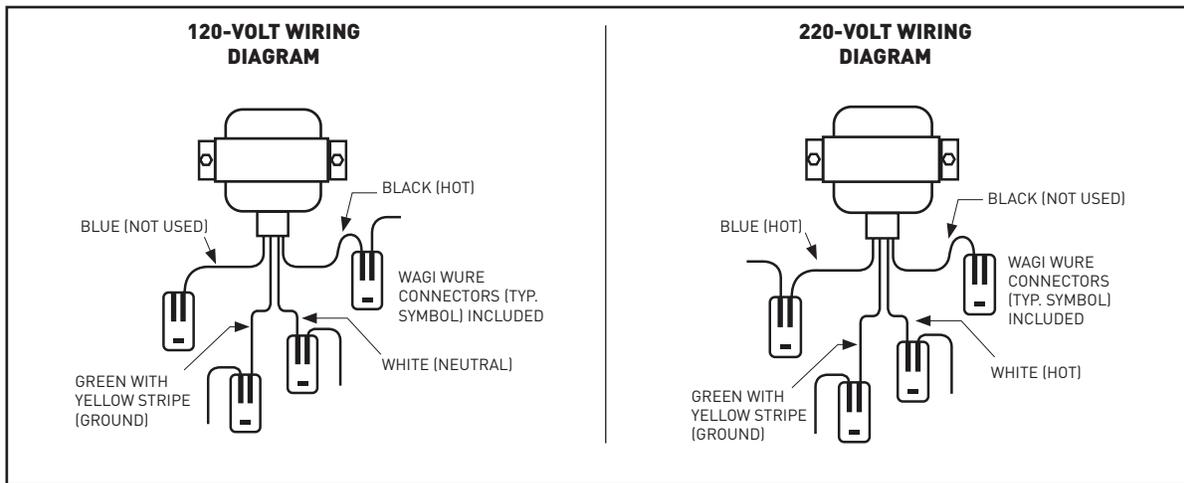

Figure 7. Transformer Wiring Diagrams
Step 2 – For a 120-volt power connection, confirm all three conductors black (Hot), white (Neutral), and the green (Ground) are connected. Ensure the blue wire's end is safely terminated in the provided wire connector. Levered electrical connectors have been provided for ease of installation. See Figure 7.